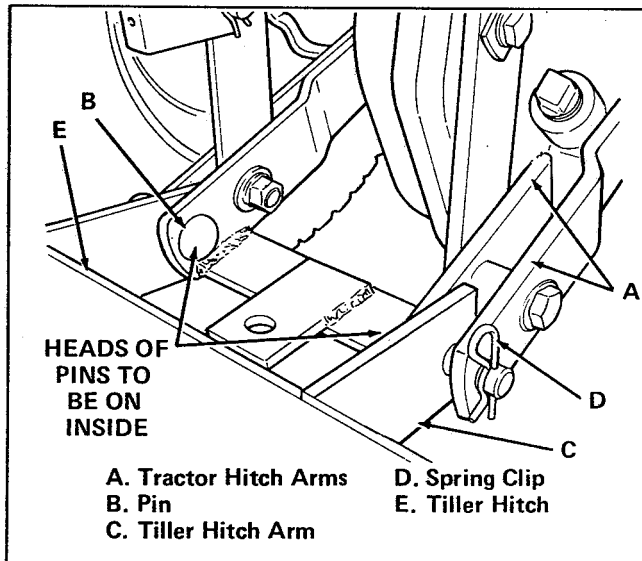

Figure 3. Attach Lower Hitch
7. Pull lower part of rotary tiller rearward and raise lower hitch (item E, figure 3) so its arms (item C) fit between tractor hitch arms (item A).
6. Remove spring clips and pins (items D and B, figure 3). Push lower hitch (item E) down so it is free of tractor hitch and reinstall pins and spring clips in lower hitch.